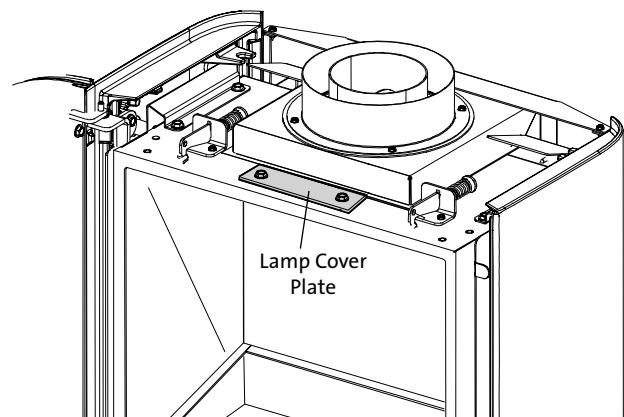
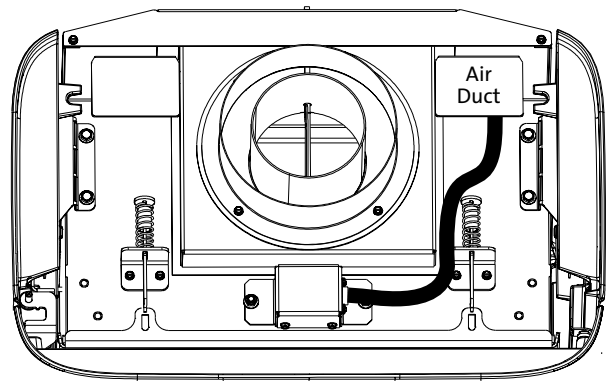
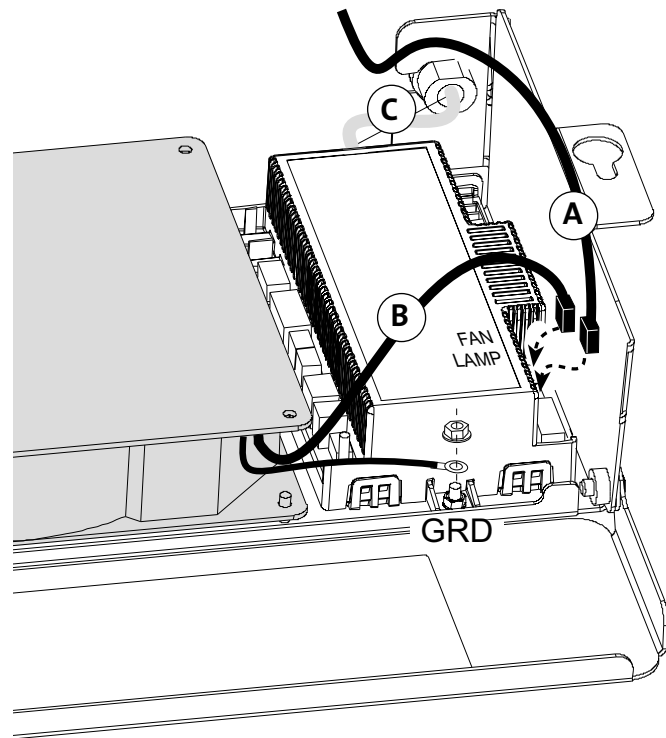

Figure 11.4. Remove the Lamp Cover Plate.
Figure 11.5. Accent Lamp Harness routing.
Figure 11.7. Blower & Lamp Terminal Connections.
2. Refer to figs. 11.4 and 11.4a. Remove the two M8 hex head bolts (A), nuts (B), and steel Lamp Cover Plate from the firebox top using a 10 mm socket wrench. Discard the cover plate.
3. Install the Gasket, Lens, and Lamp Box over the opening on the firebox using the two bolts (A) previously removed.
5. Route the lamp wire harness over and down through the right rear Air Duct as shown in Fig. 11.5. Connect the harness (A) to the terminal labelled "Lamp" on the right side of the IFC board. See fig. 11.7 on page 22.
2. Connect the blower power lead (B) to the IFC board terminal labelled "FAN". See Fig. 11.7.
3. Connect the blower ground lead to the ground terminal at the front of the IFC board using the nut provided on the board. Fig. 11.7.